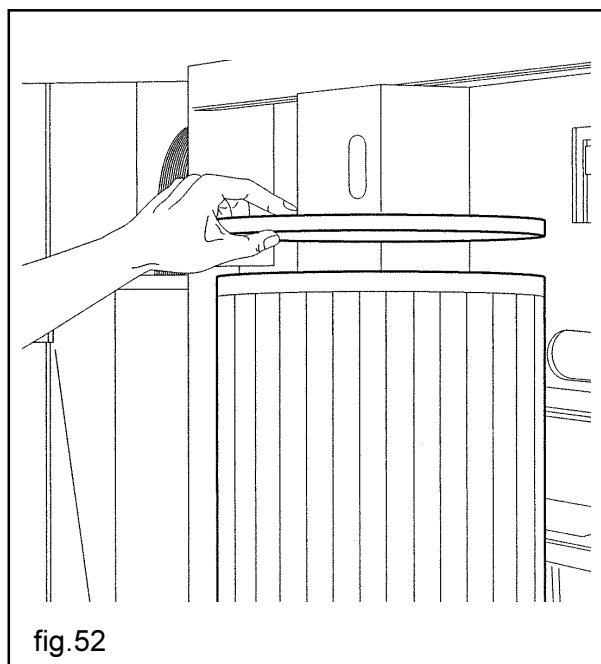

fig.52
- Replace the lid on the cup dispenser (fig.52).